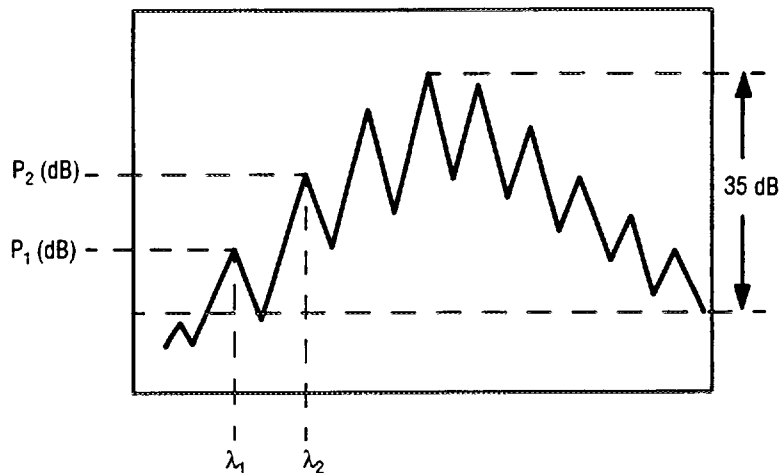

Figure 8. Typical Display of Source Mode Pattern
5. Make another measurement of the Source's mode pattern. A pattern similar to Figure 8 should result. Measure the frequency and amplitude of each peak greater than  $-35$  dBc (35 dB below the maximum peak) and record the value in Table 1.